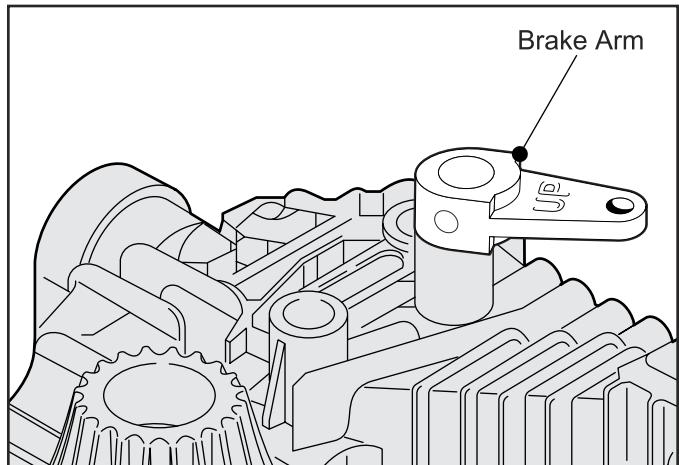

Fig. 10, Brake Arm Assembly
With the Brake Linkage in place, seat the Brake Shaft and the Brake Arm to their lowest position – In order for the Roll Pin and the Brake Arm to align properly (Fig. 10), the Return Spring must not hinder the full positioning of the Brake Shaft. Check linkage for proper operation, adjust if necessary.
4. From the reverse side of the Upper Case, mount the Brake Arm onto the Brake Shaft. The side of the Brake Arm with the word "UP" should be visible; then, align and secure with Roll Pin. (Fig. 10)